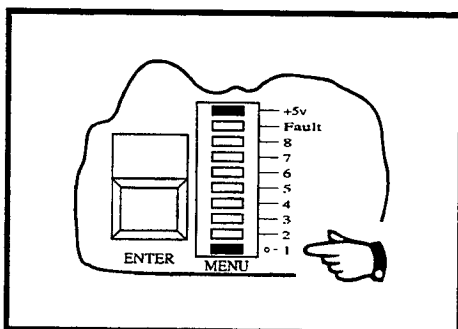

Figure 3-6
- (f) Press the blue **FUNCTION** key. The **Menu** display should cease scrolling and the segment labelled **1** should illuminate. This segment identifies the ZERO menu function. See Figure 3-6.
- (f) Press the blue **FUNCTION** key **ONCE**. The **Menu** display should cease scrolling and the segment labelled **1** should illuminate. This segment identifies the ZERO menu function. See Figure 3-6.